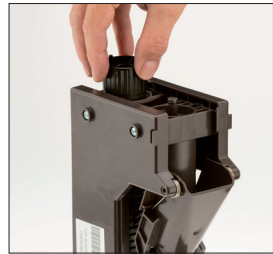

Figure 2
- * Turn the thread on the head of the brewing unit anticlockwise (Figure 2) until the scraper is located in the front position
Turn the thread on the head of the brewing unit anticlockwise (Figure 2) until the scraper is once again